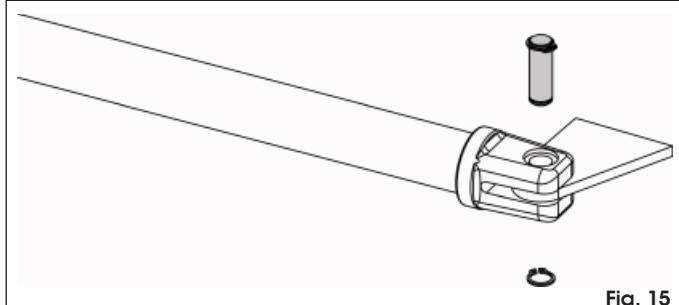

Fig. 15
- Fit the front bracket using the pin and the supplied elastic rings (Fig. 15).